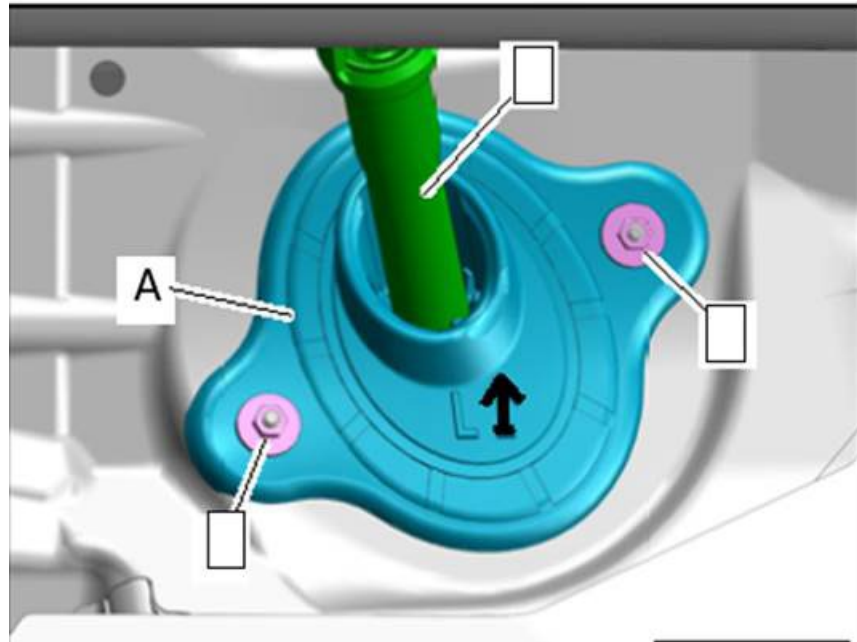

Figure 2. Sealing sleeve (also known as sealing lip).
Loosen the rubber sealing sleeve (A) and push it upwards as far as possible and retighten (Figure 2).